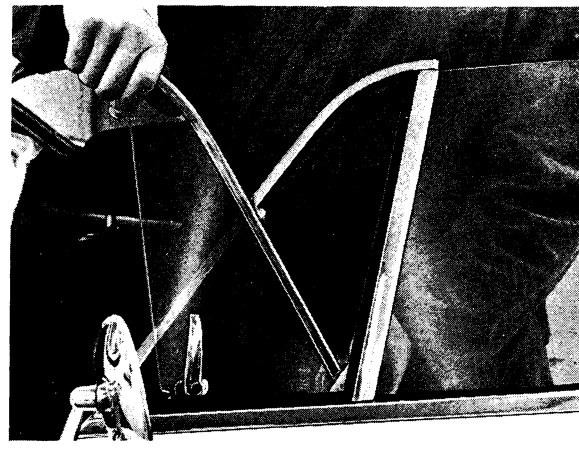

Fig. 8-24. Taking out ventilation window without frame
3. Open the ventilation window completely and press it downwards so that its upper pivot pin unhooks, after which the window can be removed (Fig. 8-24).